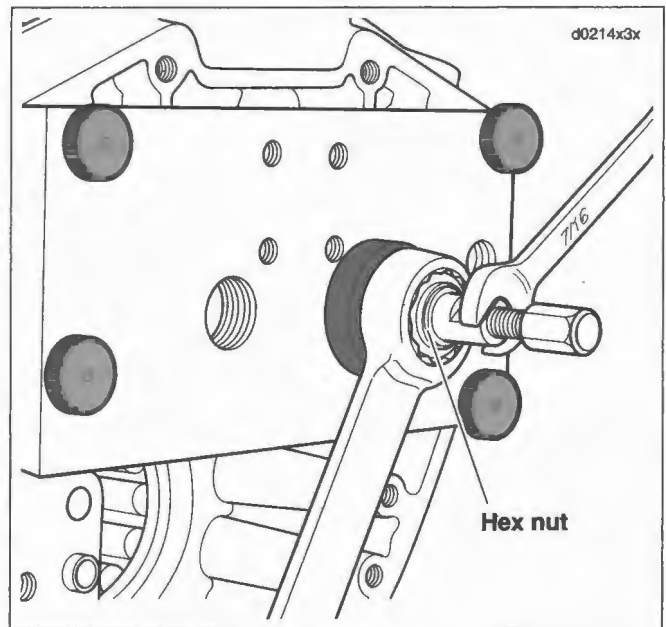

Figure 3-134. Bearing Removal
11. See Figure 3-134. Using a 15/16 in. open end wrench, turn hex nut in a clockwise direction until bearing is free. If necessary, hold flat on collet to prevent rotation.